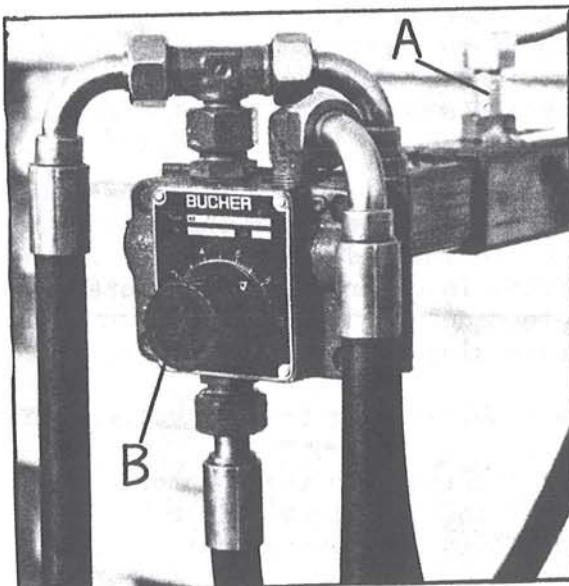
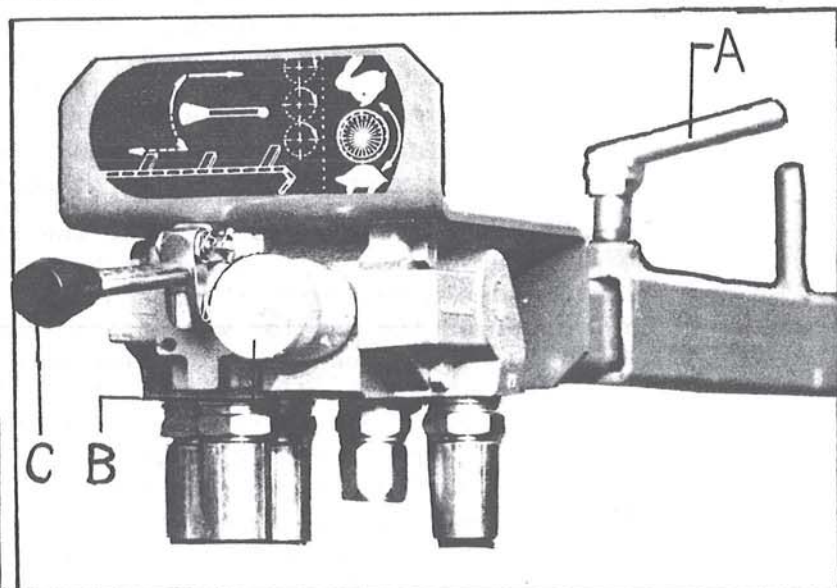

Fig. 2. No reversing lever.
Fig. 3. Reversing lever (extra).
5. Connect the hoses to the tractor with quick-acting couplings (hose "in" on pressure side and hose "out" on return side; the marks "in" and "out" can be found on the sides of the regulating block. See also the arrows on the hoses). Position the regulating block within hand reach via the slide-out system (fig. 2-A or 3-A).
6. Make sure that the knob of the regulating unit (fig. 2-B or 3-B) is in zero position.
9. Engage the apron chain. When there is a reversing lever (fig. 3-C), it should be in the above position. Put the knob of the regulating unit (fig. 2-B or 3-B) into position "1". Make sure that the chain rotates in the correct direction (i.e. the discharge direction). With the regulating knob the speed of the chain is variable steplessly from zero to maximum.